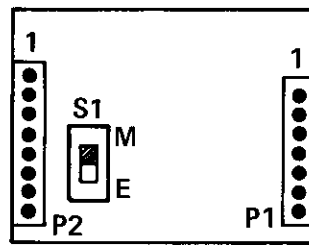

figure 4. Option switch location
3.03 No alignment of the 9961E subassembly is required. Before the subassembly is placed into service, however, one option switch must be set. The location of this switch on the subassembly is shown in figure 4.